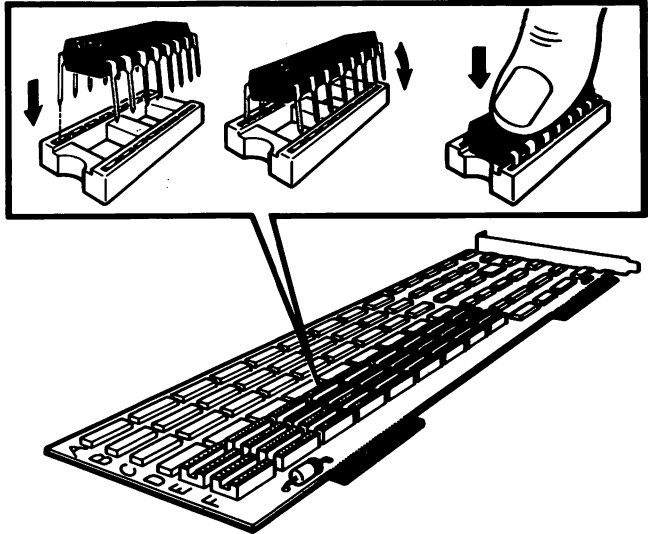

Figure 2-6. Installing the memory chip.
6. Install the memory chips one at a time. See Fig. 2-6.